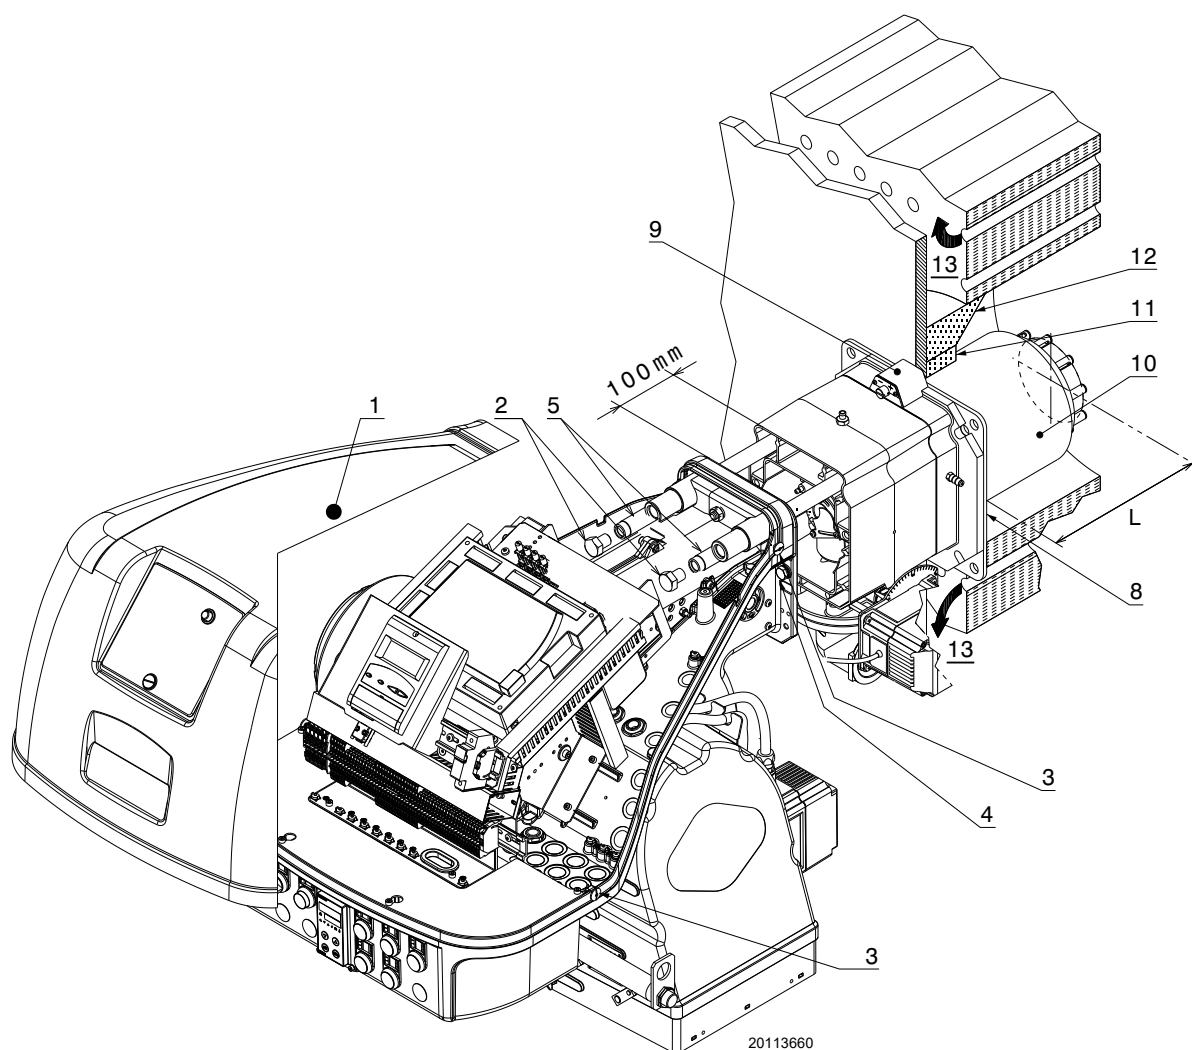

Fig. 16
For boilers with front flue passes 13)(Fig. 16 at page 22), or flame inversion chambers, a protection in refractory material 11) must be inserted between the boiler refractory 12) and the blast tube 10).
For boilers with a water-cooled frontal, a refractory cover is not necessary 11)-12)(Fig. 16), unless expressly requested by the boiler manufacturer.
Separate the combustion head from the rest of the burner, as in Fig. 16; proceed as follows:
- reassemble the burner on the guides 3) at about 100 mm from the pipe coupling 4) - burner in the position shown in Fig. 16;